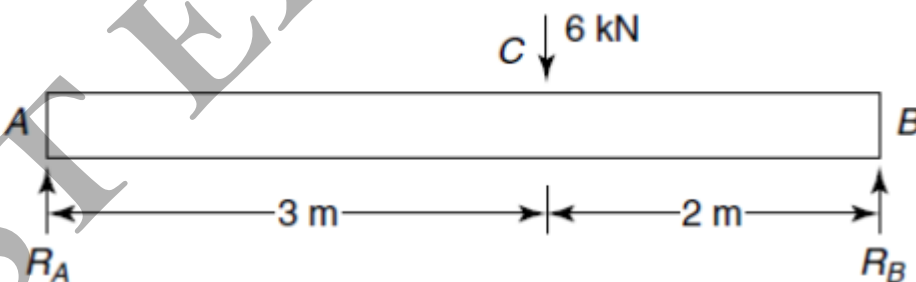

Figure Q4: Simply supported beam.
- a) Consider a water pipeline, represented as a cylindrical structure and depicted as a beam in **Figure Q4**. Assume the pipeline is operating under steady conditions and ignore the effects of its own weight. When analysing the pipeline as a beam, complete the following tasks:
- b) In Figure Q4, replace the existing 6 kN load with a new point load of 2 kN that is applied vertically downwards. This new load is positioned 2.5 m away from point A on the beam. Based on this configuration, calculate the moment generated by this load. [05 marks]